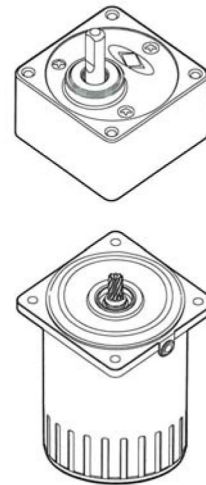

Figure 15.
4. Proper alignment is necessary when assembling gearhead with motor. (Figure 15)